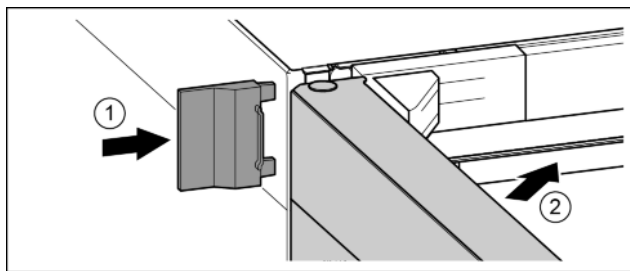

Fig. 19
- ▶ Push the external cover on. Fig. 19 (1)
- ▶ Close the upper door. Fig. 19 (2)